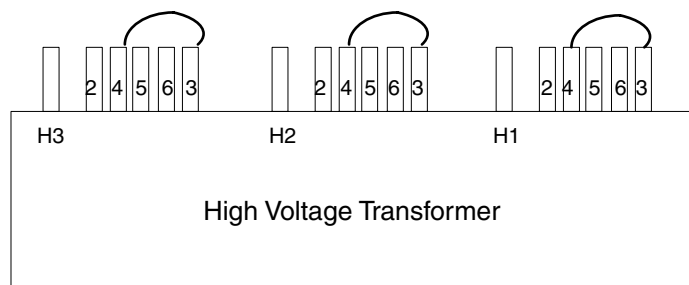

Figure 5-5 PDU Tap Positions (Rear)
- 3.) After you determine the nearest nominal line, verify the tap connections match (refer to Table 5-1 and Figure 5-5 for tap locations).